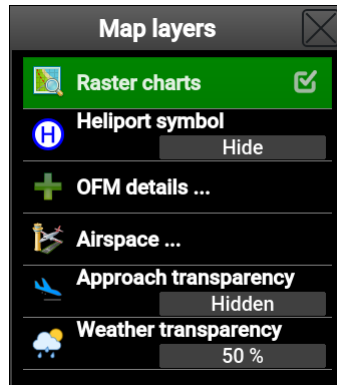

Figure 2.11: The Map layers window.
Certain map layers can be enabled or disabled and some of them can be tuned. Touching the map layers button (Figure 2.6, option ⑤) opens a window shown in Figure 2.11.